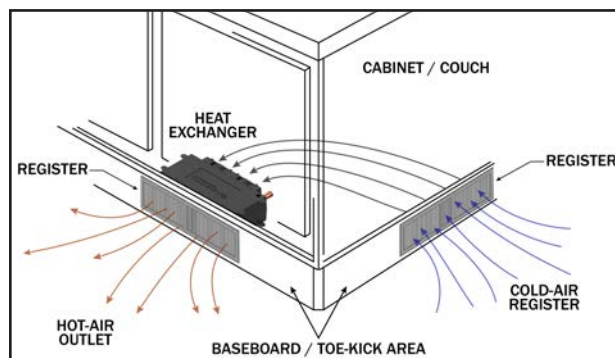

Figure 160
- Heat exchangers should be mounted as close to the hot air outlet grill as possible (reference Figure 160)